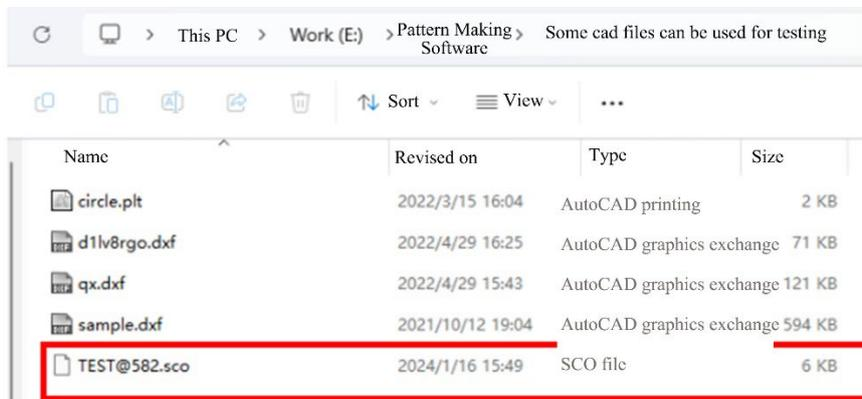

Fig. 5.7.1d File Location
③ Click the "Save" button to find this file in the corresponding folder. As shown in Fig. 5.7.1d below.